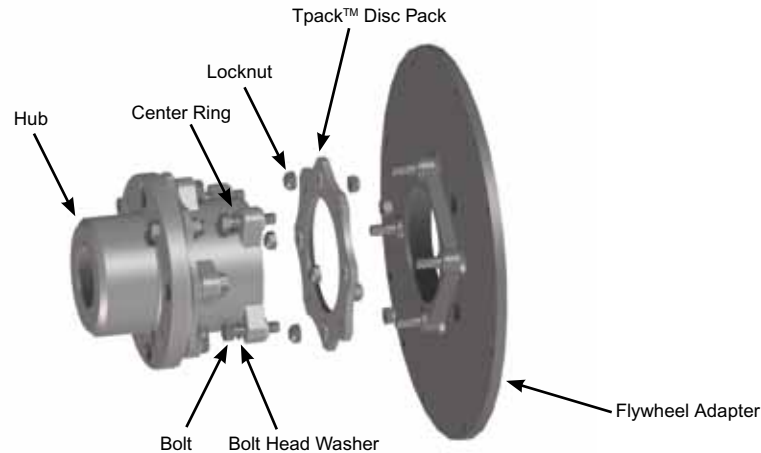

Figure 2 - Thomas Series CMR TPack Coupling Components (AMR Coupling uses a Hub at each end, with no Flywheel Adapter)
**Use this kit when replacing original Thomas round, non-unitized disc packs (non-Tpack) with a Tpack disc pack. It includes the special bolt head washers as shown in Figures 2, 3, 9 and 10.